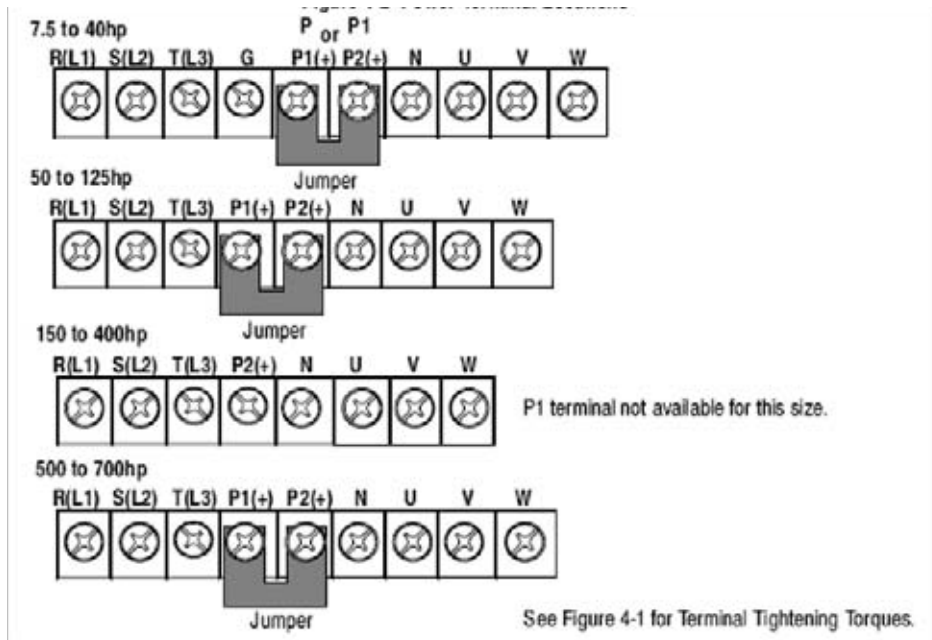

Figure 4-2: Terminal Locations
2. Connect the three phase AC input power leads to terminate R, S and T of the power input terminal board (See figure 4-2).
2. Connect the motor leads to terminal U, V, and W (see figure 4-2 for location).